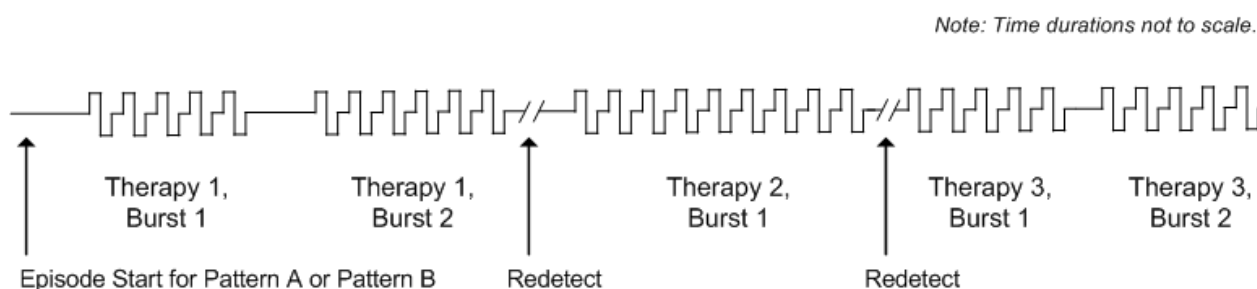

Figure 63 A THERAPY SEQUENCE DELIVERED IN RESPONSE TO ANY EVENT DETECTOR
- You can select up to two bursts to be delivered in response to any event detector, as depicted in **Figure 63**.